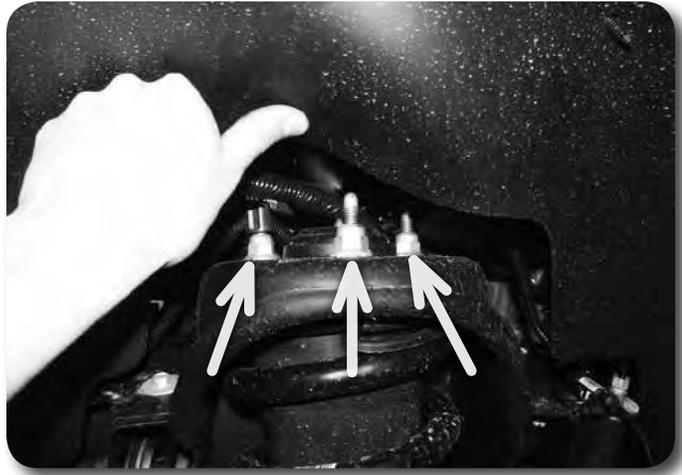

Figure 10
20. Remove the three upper strut mounting nuts **Figure 10** and remove the strut from the vehicle. **DO NOT** remove the center strut rod nut, it is under extreme pressure. Save nuts.